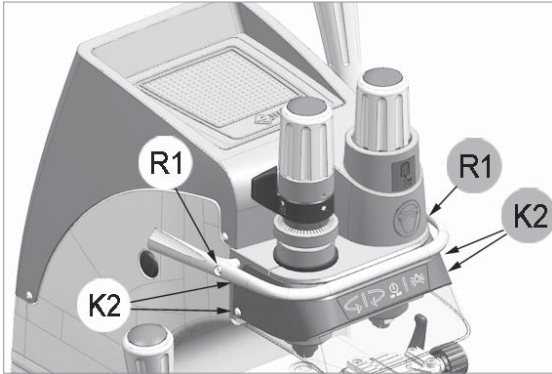

Fig. 56
- 2) Remove the 2 screws (R1) securing the rollbar (Fig. 56).